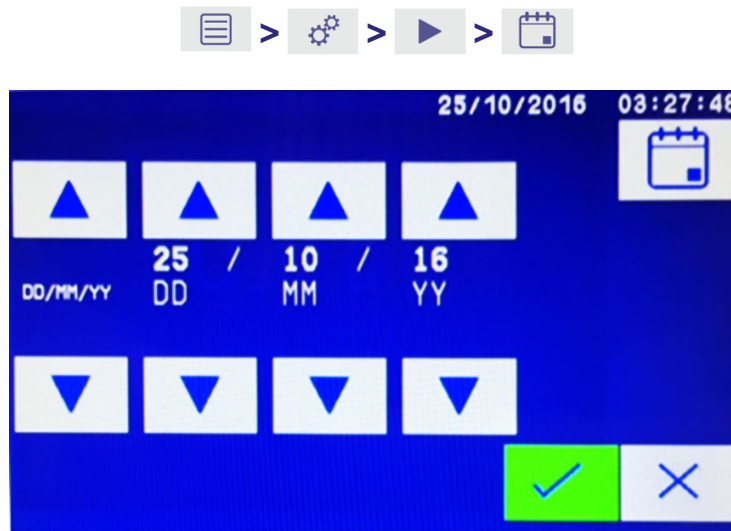

Figure 11-17: Set the analyzer date screen
2. To set the date (Figure 11-17 shows the DD/MM/YY format):